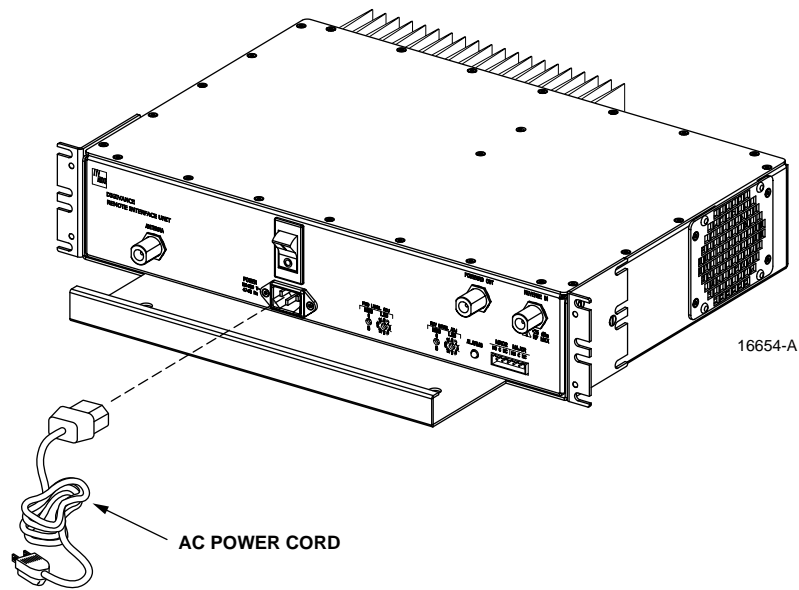

Figure 12. AC Power Connection
1. Place the RIU AC power ON/OFF switch, shown in Figure 12, in the **OFF** position (press **O**).